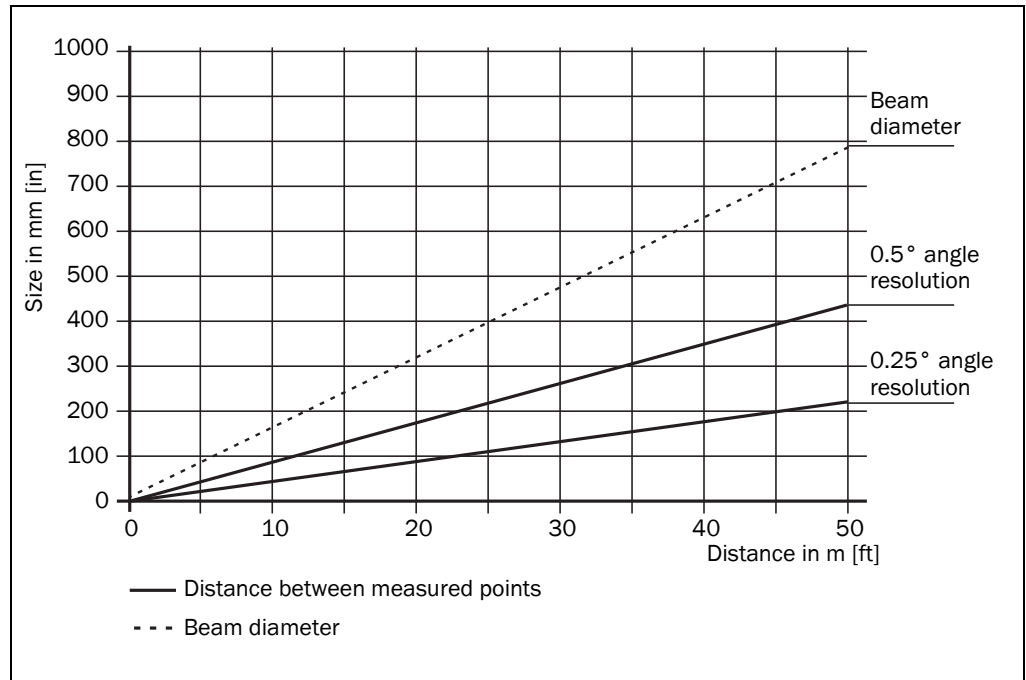

Fig. 17: Beam diameter and distance between measured points of LMS151 at 0 to 50 m (0 to 164.04 ft)
**Example for angular resolution 0.50° in Fig. 17**